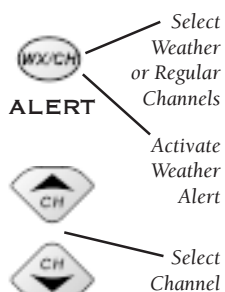

FIGURE 9
1. Press the **WX/CH-ALERT** key to toggle between regular channel and weather channel bands. The WX symbol on the display screen will appear when you have accessed the weather band. (Figure 9)
2. Return to regular use of the radio. You will hear a Weather Service beep tone and observe the flashing "WX Alert" display when a weather alert signal had been detected followed by the severe weather alert broadcast. (Figure 9)